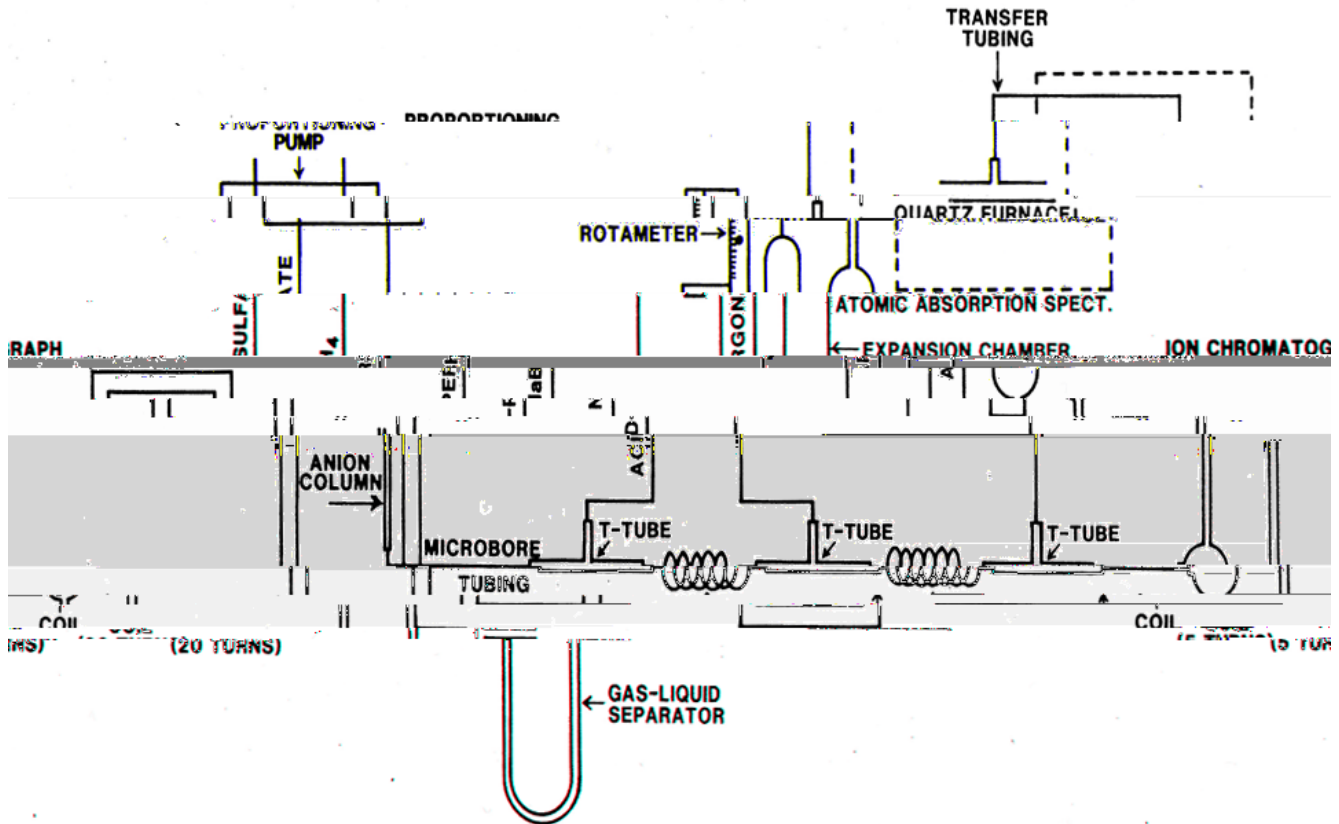

FIGURE 1. IC/AAS Analytical System.
3. Ion chromatograph with suppressor and detector bypassed. Route column effluent via PTFE tubing (0.3mm ID x 0.6mm OD) directly into arsine generator (Figure 1).